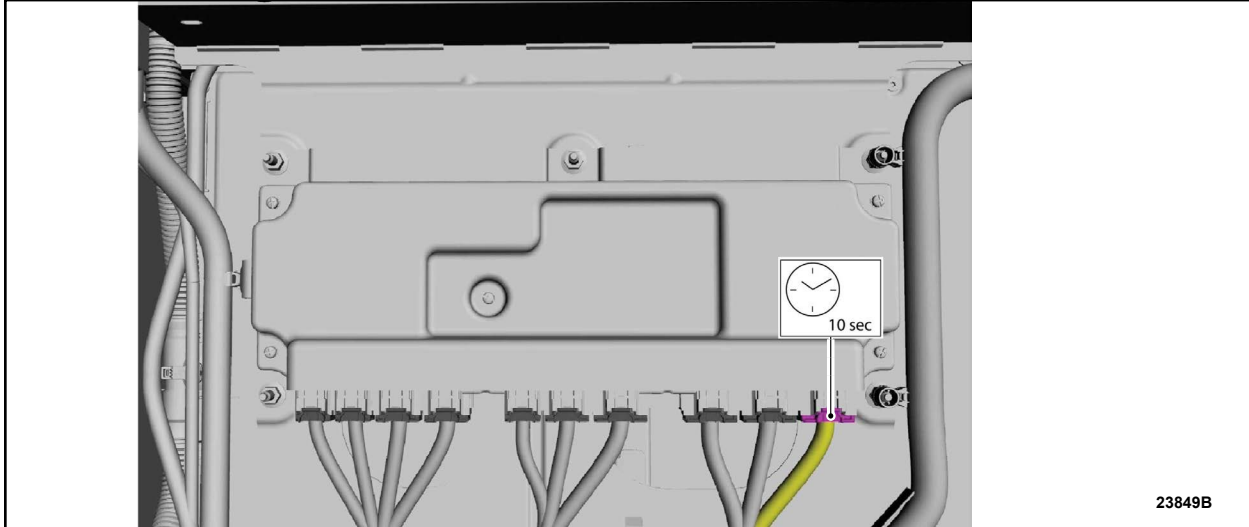

FIGURE 2
⚠ NOTICE: Wait 10 seconds after disconnect the BECM electrical connector shown, See Figure 2, before disconnecting the remaining electrical connectors or component damage may occur.
3. Disconnect the BECM electrical connector. See Figure 2.